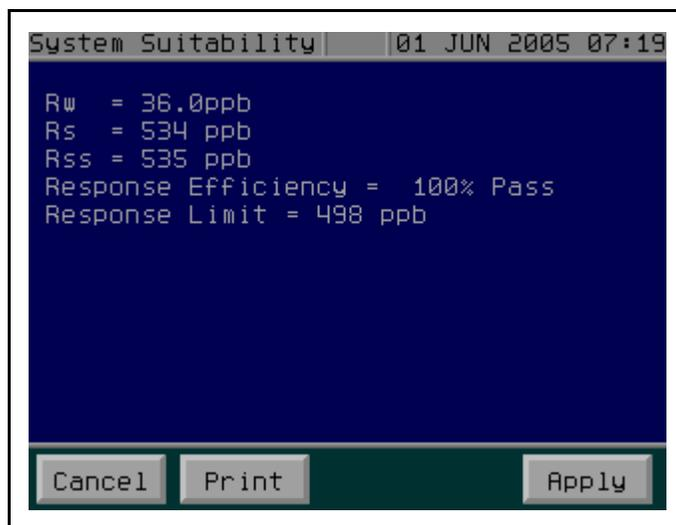

Figure 30: System Suitability Summary Screen
6. After the last standard has been analyzed, the System Suitability summary screen is displayed (see Figure 30). The Analyzer indicates if the system suitability passed or failed based on the following criteria: